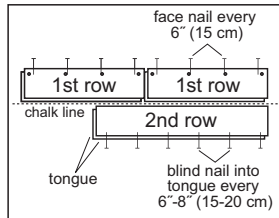

Figure 8
- Use a pneumatic brad nailer to face-nail the groove side 1/2" (13 mm) from the edge of the wall at 6" (15 cm) intervals and 1"-2" (2.5-5 cm) from each end then face-nail at a 45° angle-down through the nailing "pocket" on top of the tongue (Figure 8). OR pre-drill the nail holes 1/2" (13 mm) from the back (groove) edge, 1"-2" (2.5-5 cm) from each end, and at 6" (15 cm) intervals. Pre-drill at the same intervals at a 45° angle down through the nailing "pocket" on top of the tongue (Figure 8). Face-nail the groove side where pre-drilled. When complete, blind-nail at a 45° angle through the tongue of the first row. Fasten using 4 or 6d nails. Countersink nails to ensure flush engagement of the groove. Avoid bruising the hardwood by using a nail set to countersink the nails. Continue blind-nailing using this method with following rows until the stapler can be used.